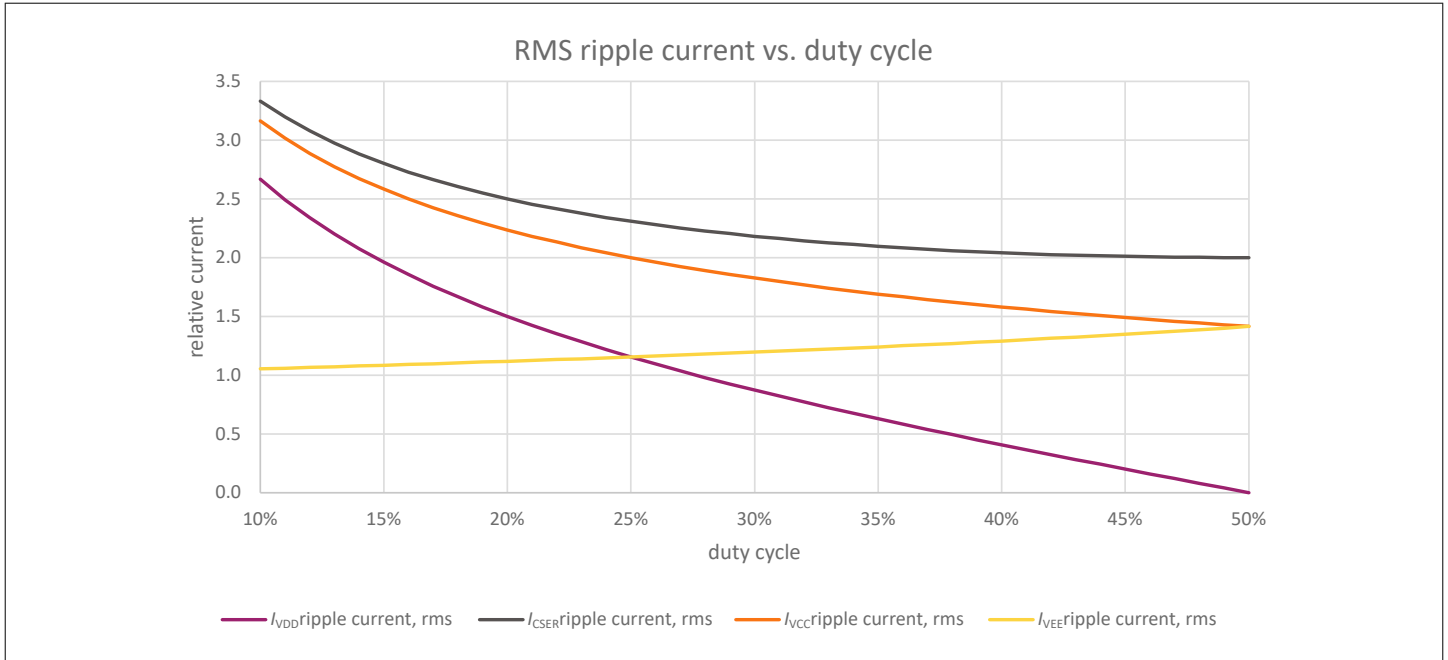

Figure 27 Relative RMS ripple current vs. duty cycle
- The orange curve in Figure 27 shows the VCC ripple current factor
- The yellow curve in Figure 27 shows the VEE ripple current factor
- The gray curve in Figure 27 shows the series capacitor ripple current factor
- The magenta curve in Figure 27 shows the VDD ripple current factor